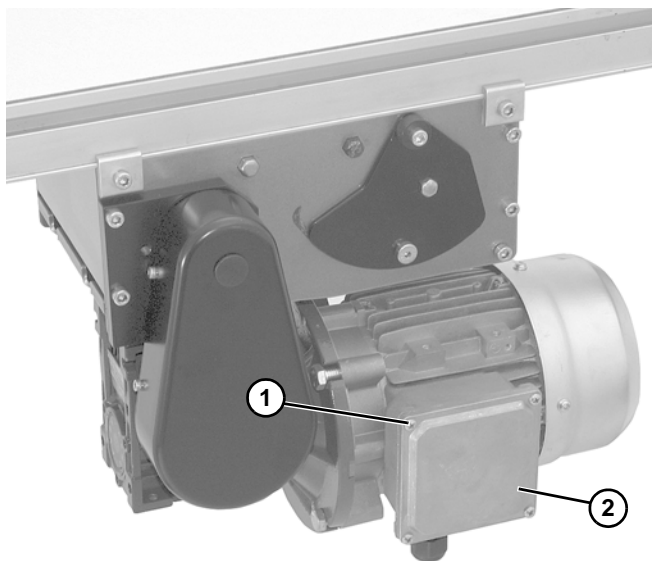

Figure 27
1. Loosen terminal box screws (**Figure 27, item 1**) and remove cover (**Figure 27, item 2**).